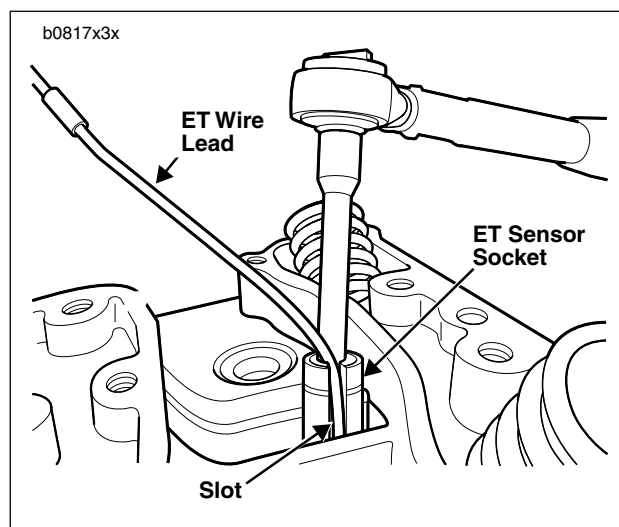

Figure 7-8. ET Sensor Removal/Installation
1. See Figure 7-8. Screw sensor into rear cylinder head with special ET sensor socket. Make sure wire is in cut-out portion (slot) of socket to prevent damage. Tighten ET sensor to 10-14 ft-lbs (14-19 Nm).